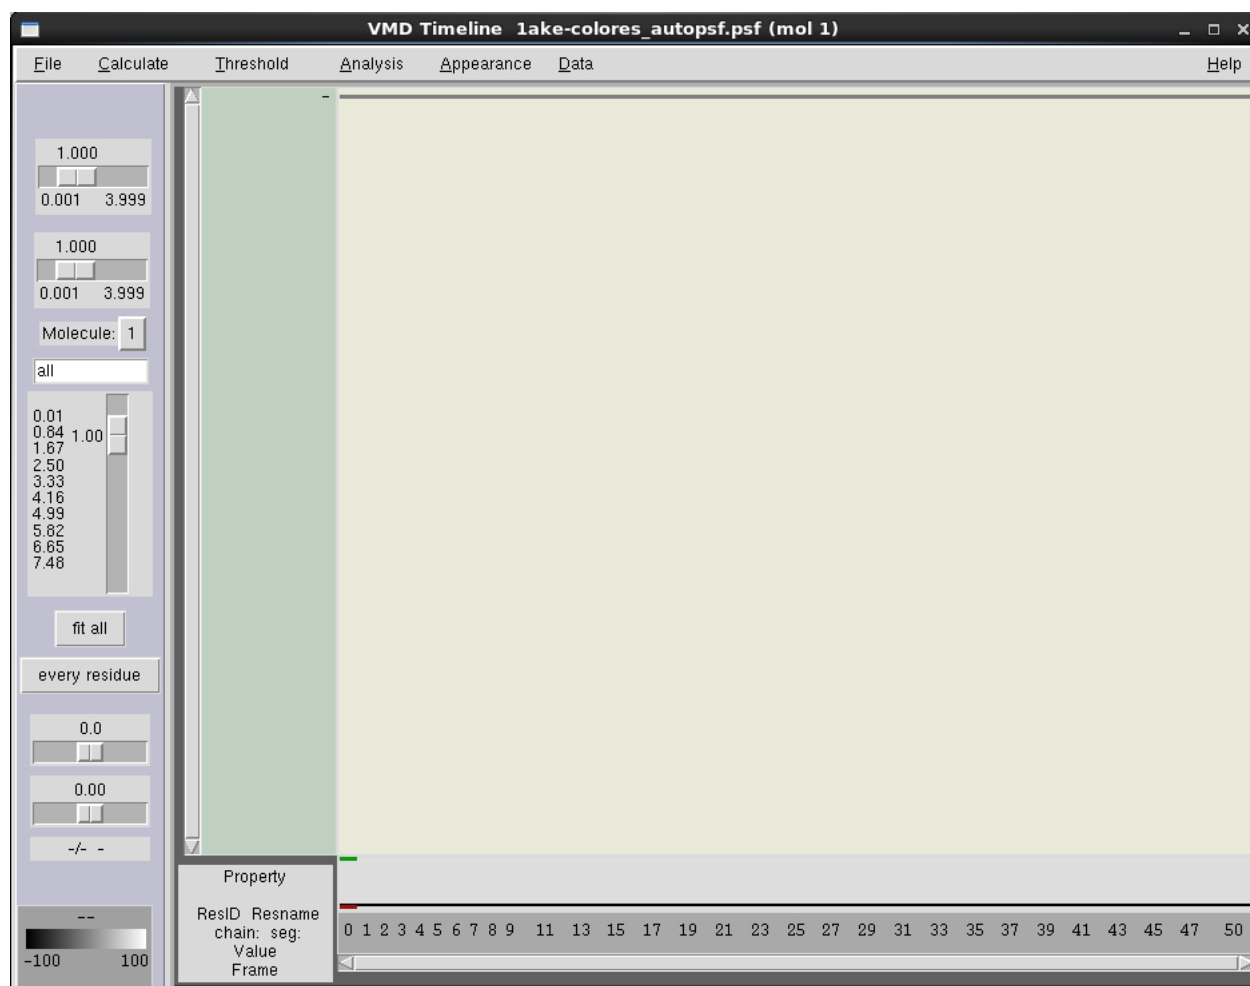

Figure 21: Timeline window prior to analysis
- 2 Open Timeline from the VMD menu in Extensions -> Analysis -> Timeline. You should see a window like the one in Fig. 21. Make sure the number on the left-hand side of the window next to the Molecule: label is the same as the ID of the molecule that contains the DCD you wish to analyze.